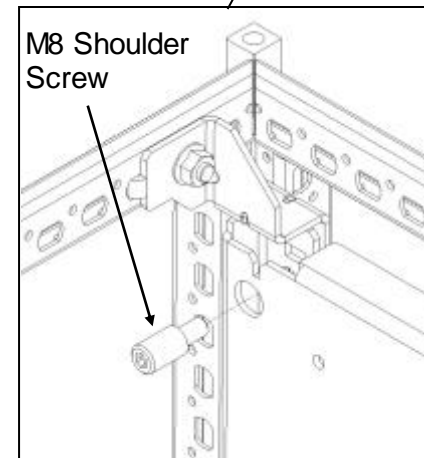

Figure 5
6. Secure the Mounting Panel to the top support brackets using two M8 shoulder screws (torque 300 IN-LB [33.9 N-M]) (Figure 5).